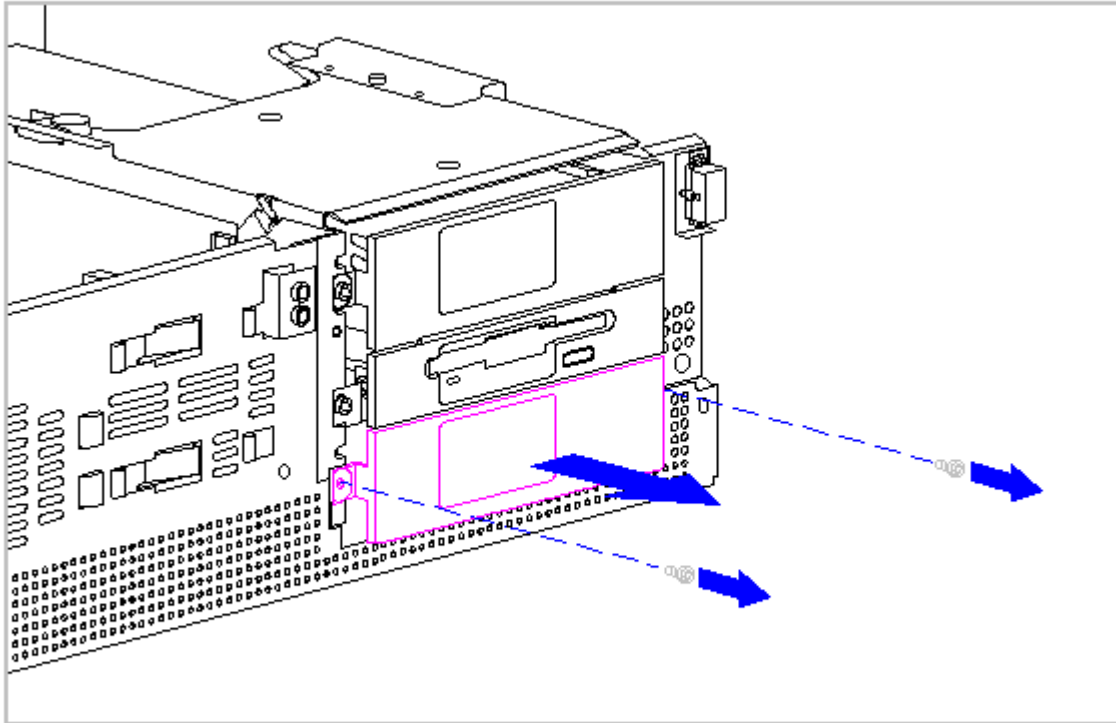

Figure 5-34. Removing a Bezel
3. The bezel is held in place with two screws (Figure 5-34). Remove the screws to release the bezel.